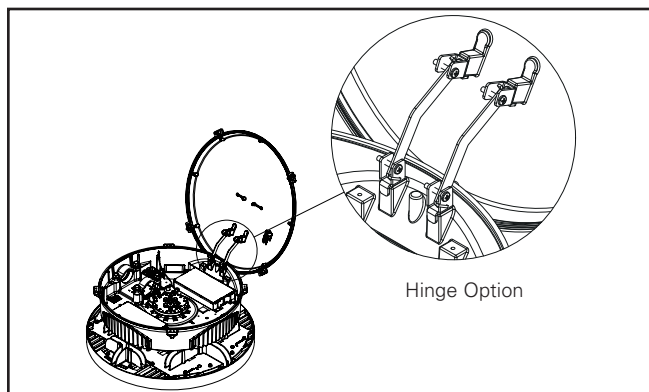

Figure 2.
Note: Cover is tethered with a 12 inch safety chain unless luminaire has a hinge option. Hinge option is shown in (Figure 2.)
5. Check that the luminaire is level (level indicator provided as optional inside the luminaire see Figure 2). Tighten all four clamps down evenly and tighten to 35 ft lbs.